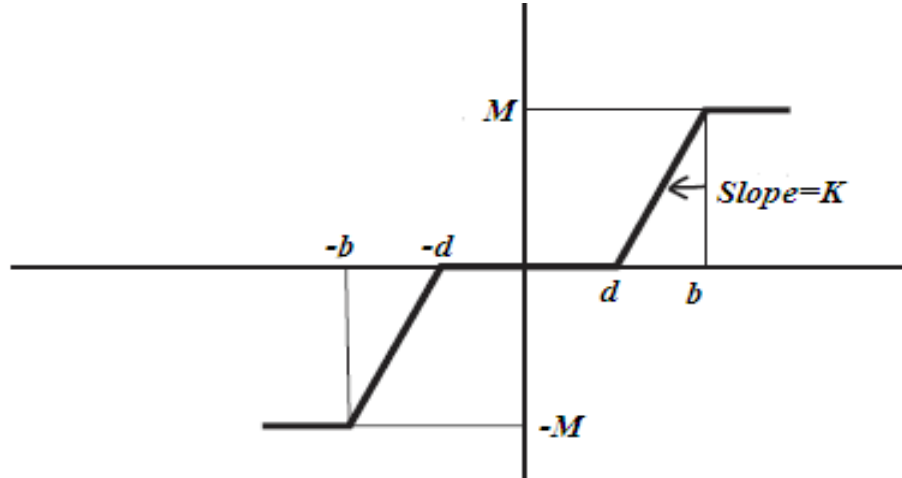

Fig Q3
Obtain the describing function for the nonlinearity shown in Fig Q3.
- Obtain the describing function for the nonlinearity shown in Fig. Q3.
- Using **MATLAB**, simulate the nonlinearity shown in Fig. Q3 and obtain the resultant output.